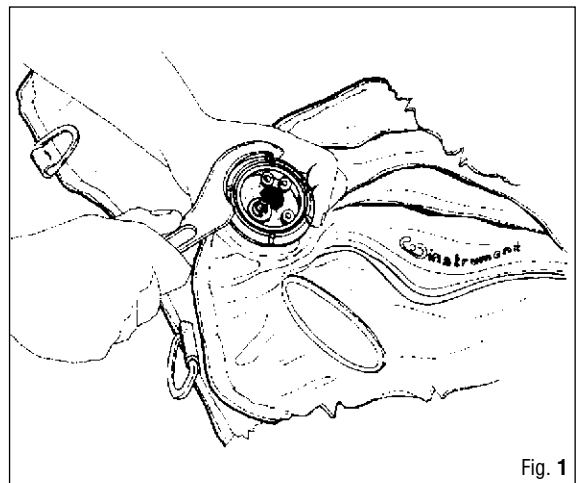

Fig. 1
5. Remove the O-Ring (23) from the exhaust valve shaft (29).
6. Remove the O-Ring (23) from the inflator valve shaft (29).
7. Using a pin wrench (USAG type 282/58-62-65), remove the ring nut (11) (Fig. 1).
WHEN UNSCREWING THE RING, HOLD THE INNER PART OF THE PNEUMATIC INFLATOR IN PLACE TO PREVENT THE INNER SUPPORT FROM ROTATING AND THEREBY DAMAGING THE TUBE INSIDE. (Fig. 1)